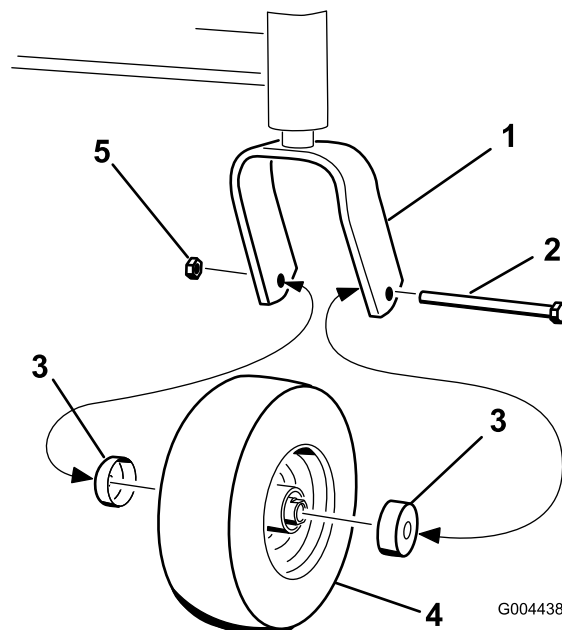

Figure 25
4. Remove then nut and bolt holding the caster wheel to the front caster fork (Figure 25).
5. Remove the seal guard from the wheel hub (Figure 25).
17. Install the seal guards over the wheel hubs and insert the wheel into the caster fork (Figure 25).
18. Install the caster bolt and tighten the nut (Figure 25).